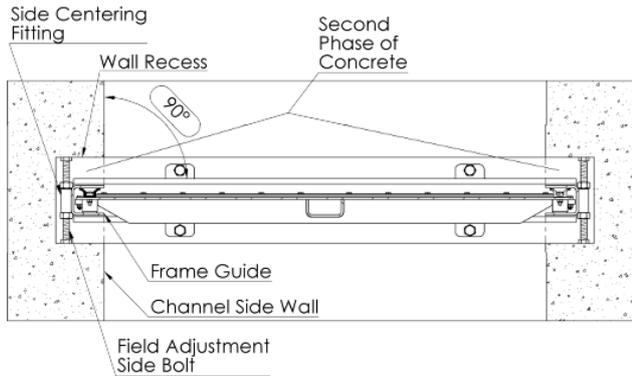

Figure 4
- Align the unit horizontally and make sure that the Frame Guide is flush with the channel side wall. Additionally, make sure that the gate is perpendicular to the side walls of the channel. Adjust the bolts on the "Lateral Centering Fittings" if applicable (see Figure 4).